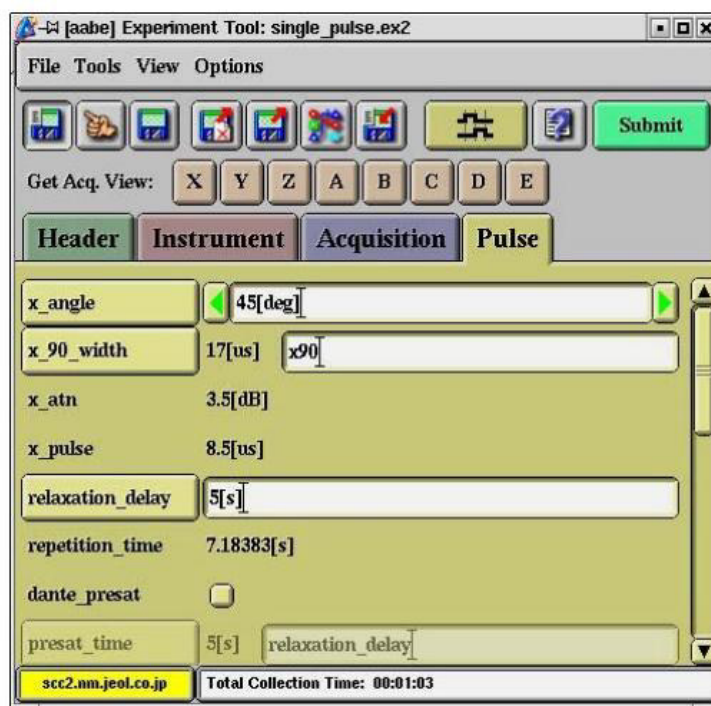

Fig. 3.7: Pulse Section
- x. Go to Pulse section, see Fig. 3.7